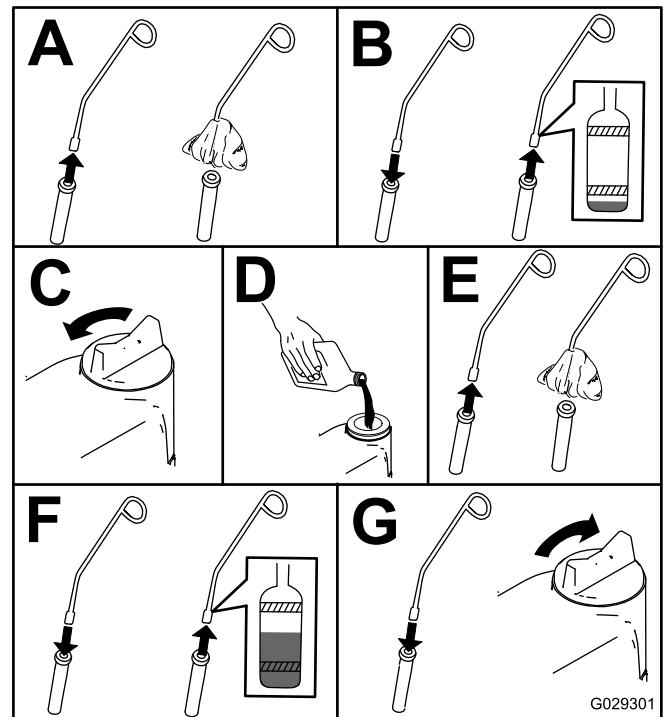

Figure 46
5. Check the oil and add additional oil as needed (Figure 46).